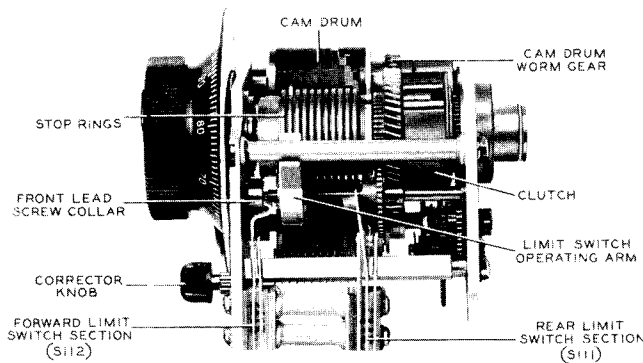

Figure 5-15. Autotune Multiturn Unit—Right Side
(1) The limit switch is composed of a front section, S112, and a rear section, S111, and is located on the right side of the Multiturn or "B" Autotune unit. Refer to figure 5-15.
(2) The rear limit switch section, S111, should be adjusted so that it snaps between the limits of $3\frac{1}{4}$ to $9\frac{1}{4}$ turns of the line shaft crank counting clockwise from the time the switch snaps until the collar pin on the switch operating arm is engaged by the rear lead screw collar.
(3) Add or remove shims from the rear end of the front switch section, S112, insulator stack until the foregoing conditions can be met.